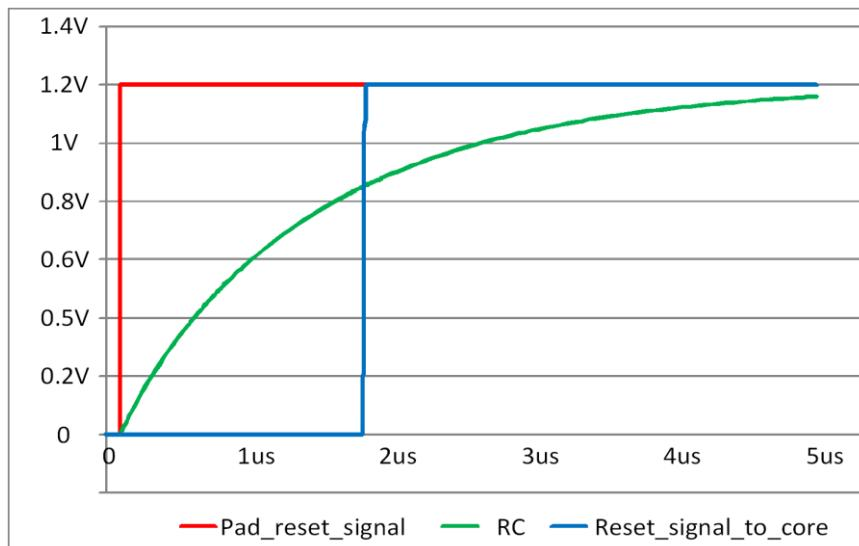

Figure 10: RST Pad Latency
The DA14585 High Temperature comprises an RST pad which is active high. It contains an RC filter for spikes suppression with $400\text{ k}\Omega$ and 2.8 pF for the resistor and the capacitor respectively. It also contains a $25\text{ k}\Omega$ pull-down resistor. This pad should be connected to ground if not needed by the application. The response is illustrated in the Figure 10 which displays the voltage (V) on the vertical axis and the time (μs) on the horizontal axis: